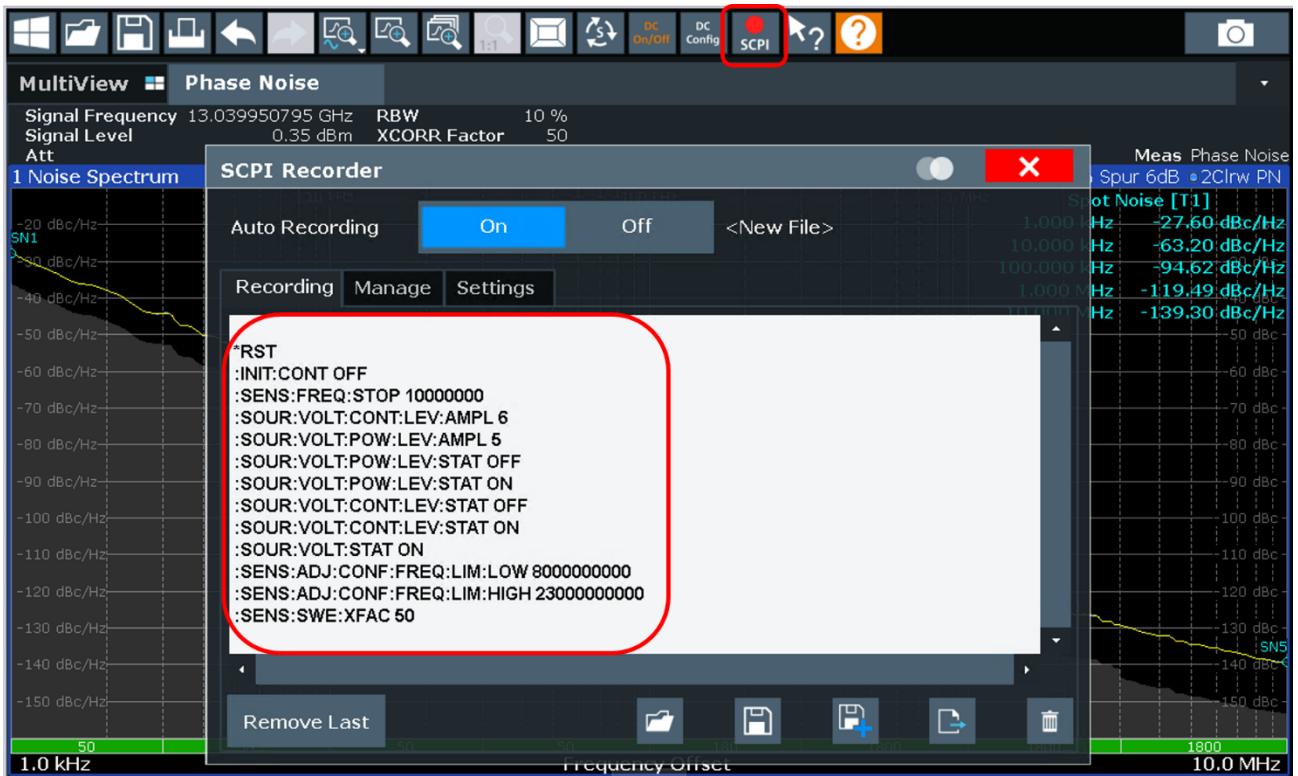

Figure 40: Recorded SCPI commands after manual operation
- (1) Select the *SCPI* softkey
- (2) Switch the auto recording On
- (3) Choose whether the SCPI recording should start with an instrument preset
- ▶ The instrument displays the list of all corresponding SCPI commands of the manual operation (Figure 40). In this case the SCPI commands of the phase noise measurement described in chapter 5 is shown. Now it is possible to export the plain command list or ready-to-use scripts in different languages such as Matlab®, Python and C#.